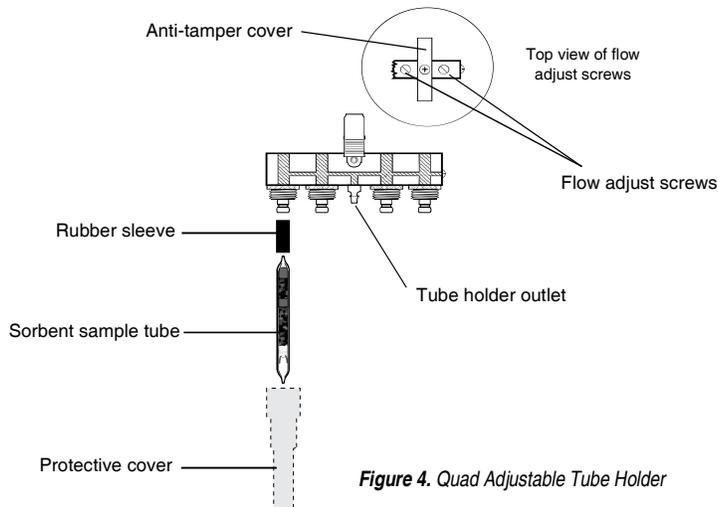

Figure 4. Quad Adjustable Tube Holder
### Using Multiple-tube Adjustable Tube Holder (Figure 4)
4. Connect the adjustable tube holder (Figure 4) to the pump inlet (Figure 1) using the attached 1/4-inch Tygon tubing. See right.
5. Insert an opened sorbent tube into each rubber sleeve of the tube holder (Figure 4). **Ensure that the arrow on each tube points toward the tube holder.**
7. Using flexible tubing, connect the exposed end of the first sorbent tube to the calibrator outlet (suction port). Loosen and turn the brass flow adjust screw (*Figure 4*) on the port of the appropriate tube holder (**counterclockwise to increase, clockwise to decrease**) until the desired flow rate is achieved. **Note:** For tri and quad models, first rotate each anti-tamper cover (*Figures 4 and 5*) to expose the flow adjust screws, then adjust the appropriate one until the calibrator indicates the desired flow.